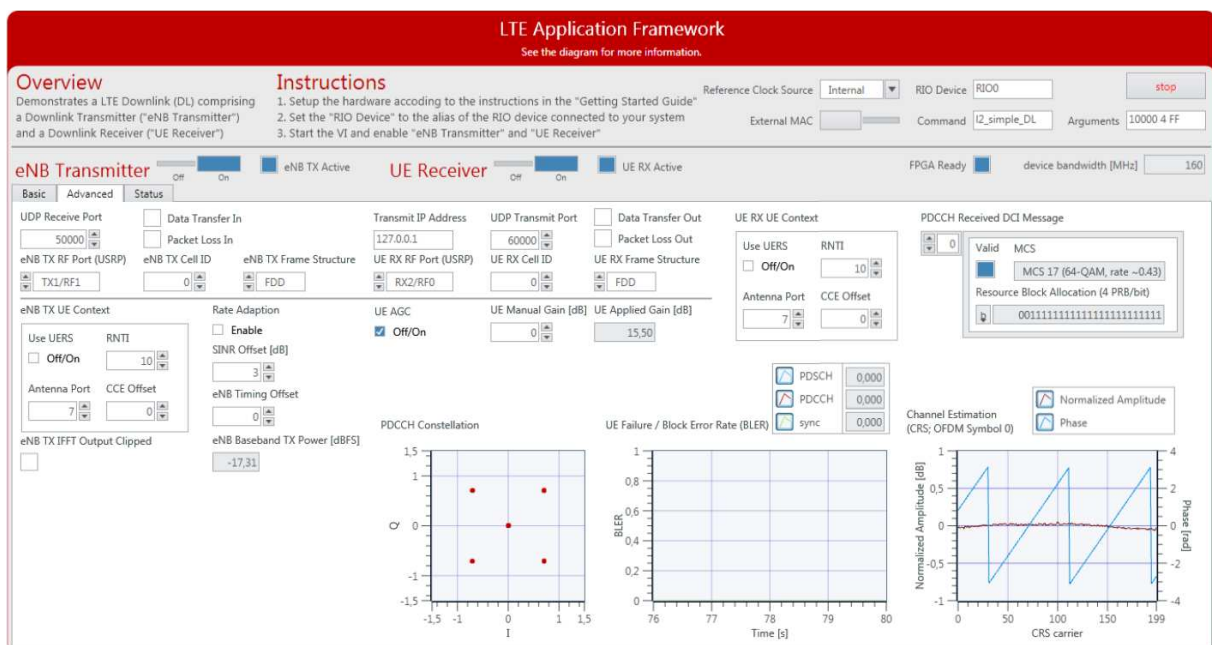
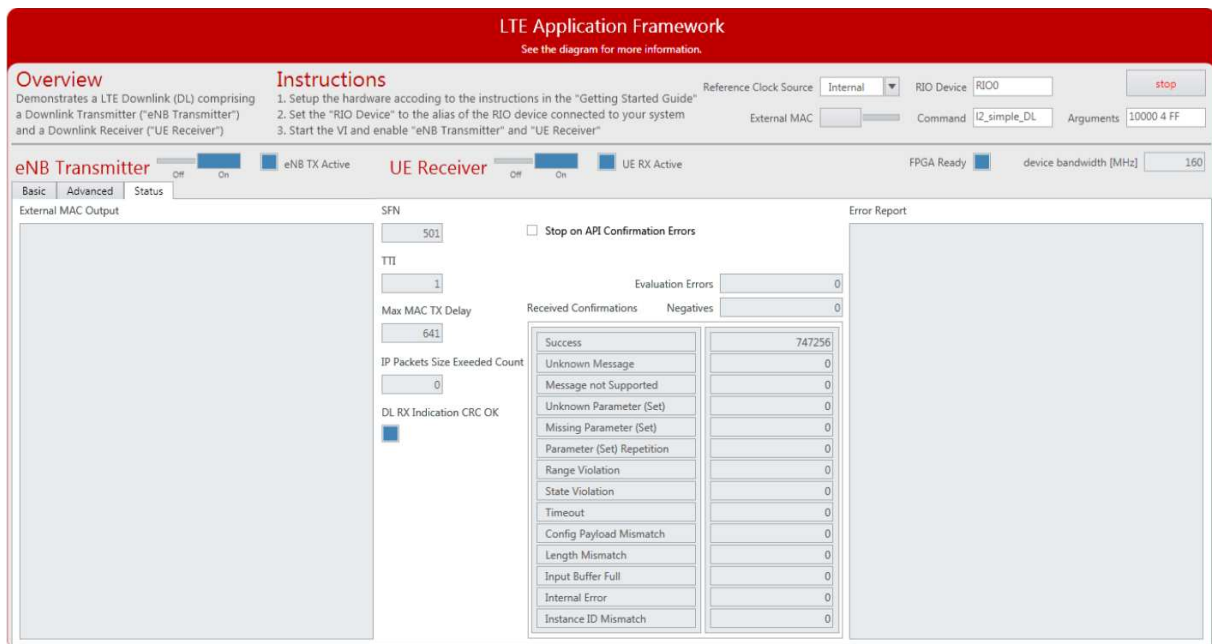

Figure 8 Front Panel of LTE Host DL.gvi / Advanced Tab When Running Successfully
Figure 9 Front Panel of LTE Host DL.gvi / Status Tab When Running Successfully
If the system is running as expected, the downlink signal generated by the transmitter is correctly received and decoded by the receiver. In this case, the host panel should appear as shown in Figure 8 and Figure 9.
- Cabled setup: flat curve around 0 as shown in Figure 9
- Phase, cabled setup: saw tooth curve (straight line, wrapping two times) as shown in Figure 9 (indicating that FFT cuts slightly into the cyclic prefix)